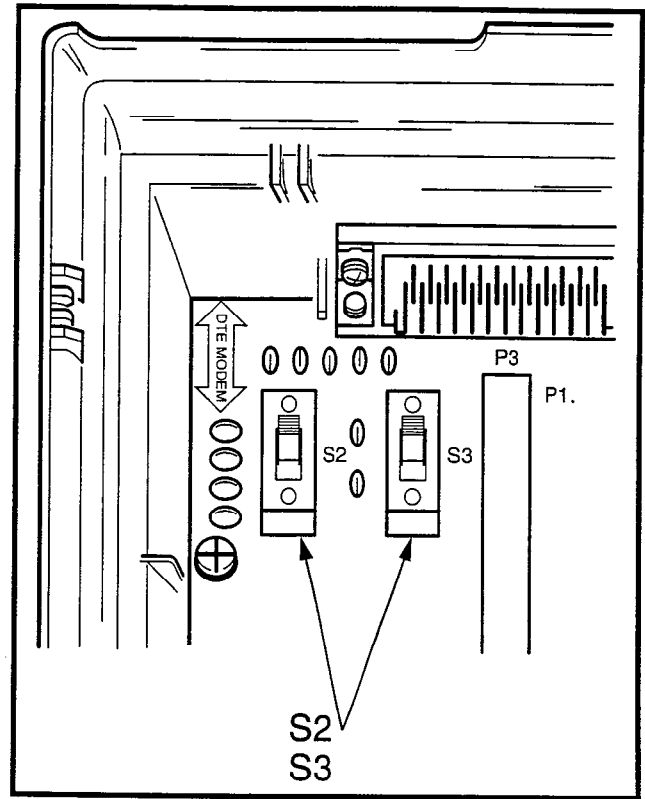

FIGURE 4-41—DIUB PCB
- 2) Carefully separate the two halves of the DDIU-MA to expose the **S2** and **S3** (DTE/MODEM) switches (Figure 4-41) in the upper left corner of the DIUB PCB.